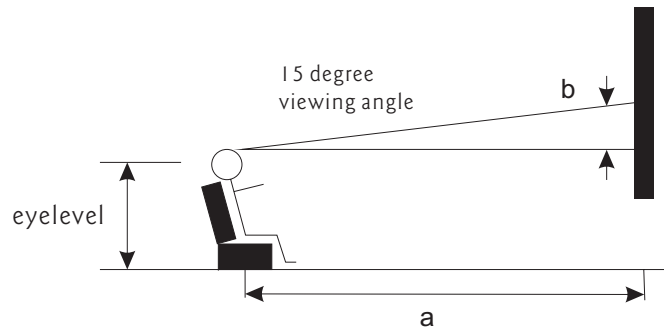

Fig 2a
- 1) the distance between wall and couch(Fig 2a).
- 2) the distance of eyelevel from ground level plus the distance measured from eyelevel of a person sitting on couch with viewing angle of  $15^\circ$ (Fig 2a).